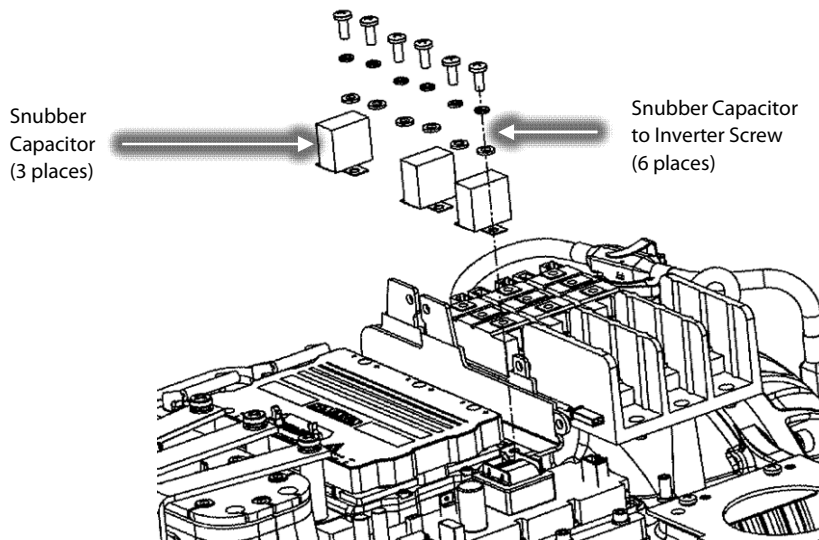

Figure 11 – Snubber Capacitor Removal
21. Disconnect the snubber capacitors from the Inverter noting the leg orientation of one leg is longer than the other. Refer to Figure 11 (Snubber Capacitor Removal).
13. Reinstall the DC Bus Bar and Capacitor Assembly over the Inverter. Then reconnect the snubber capacitors to the Inverter noting the leg orientation and torque to specification. Starting from the DC Bus Capacitor side, torque to 7 Nm (62 in.lb.). Refer to Figure 11 (Snubber Capacitor Removal).